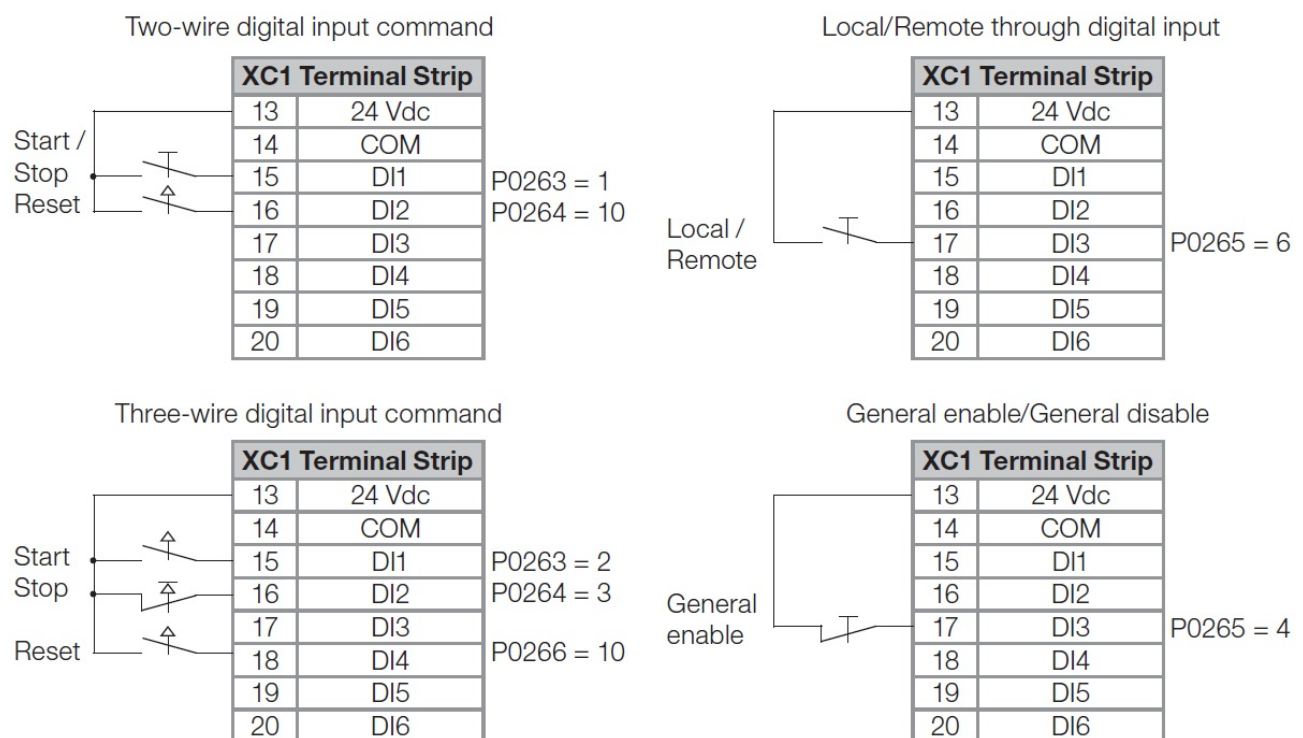

Figure 5.40: Digital input command examples
- The digital inputs feature programmable functions; figure 5.40 shows some examples of programming.